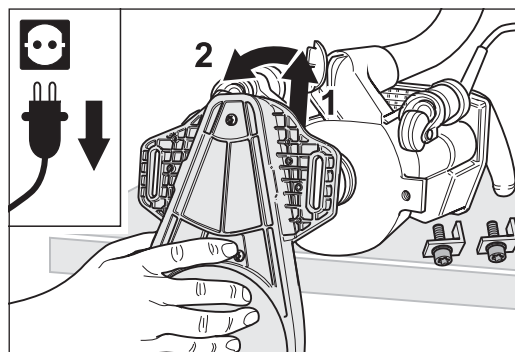

Fig. 40 Remove the attachment from the machine.
- 6** Remove the attachment from the machine (fig. 40) and put down the attachment with the sanding disc facing upward.